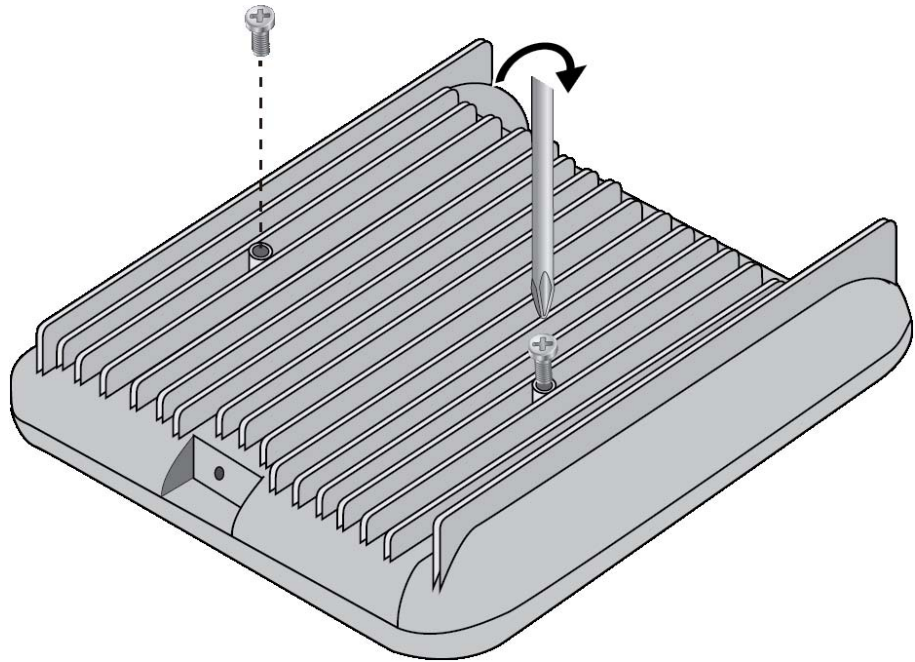

Figure 22. Installing the Bracket Screws into the Wireless Access Point
2. Install the two screws (provided) fully into the bottom panel of the access point. Refer to Figure 22.